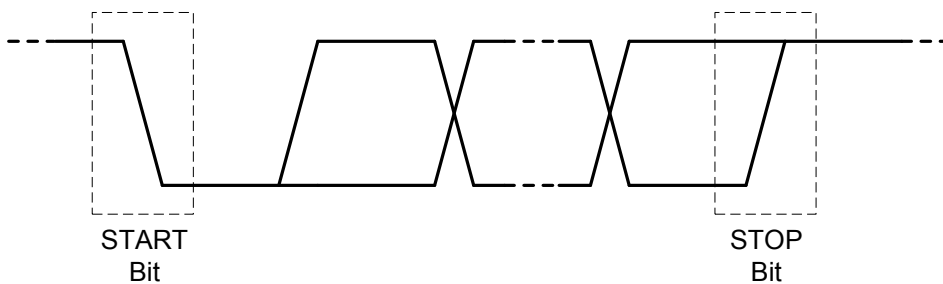

Figure 2: UART Transmit Procedure
The UART protocol provides a simple way to transmit data over a serial link. Data is sent at a fixed baud rate, requiring no clock signal to be transmitted. The transmit procedure is illustrated in Figure 2. The quiescent state of the link is the high (1). A byte is sent by first asserting a start bit (0), then the data bits and finally the stop bit (1). Each of these values is asserted for an entire bit period.